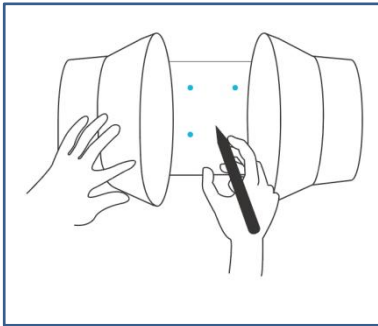

Fig.3.
- 3、 Use the flange bracket to set your desired fan position. Mark the four mounting holes.See the (Fig.3.)